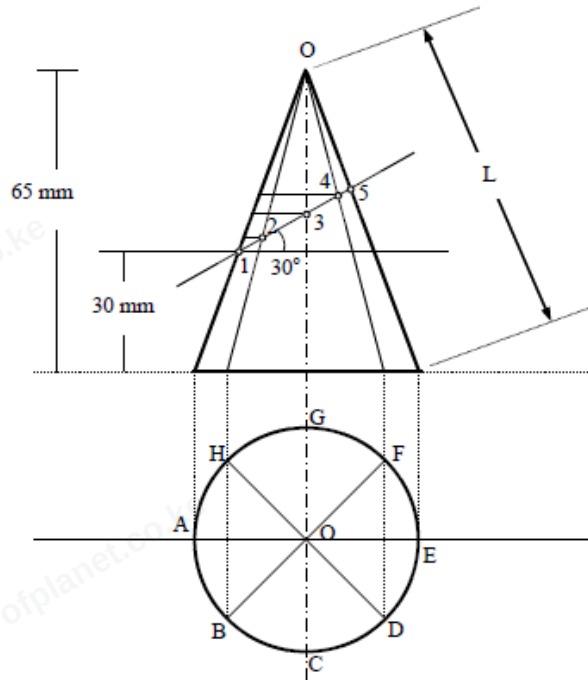

Figure 4
13. A cone of base 50 mm diameter and height 65 mm rests with its base on horizontal plane as shown in **Figure 4** below. A section plane perpendicular to vertical plane and inclined at 30° to horizontal plane bisects the axis of the cone.